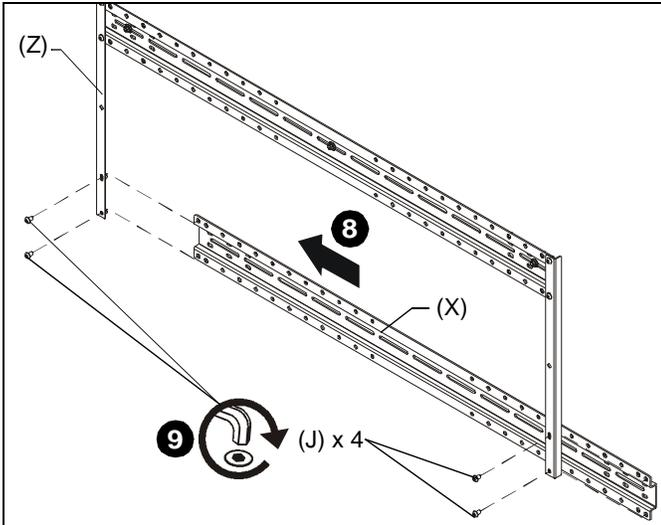

Figure 4
8. Slide wall plate (X) in between wall and lower end of side brackets (Z). (See Figure 4)
9. Loosely install two side brackets (Z) to lower wall plate (X) using four 5/16 x 1/2" button head cap screws (J). (See Figure 4)